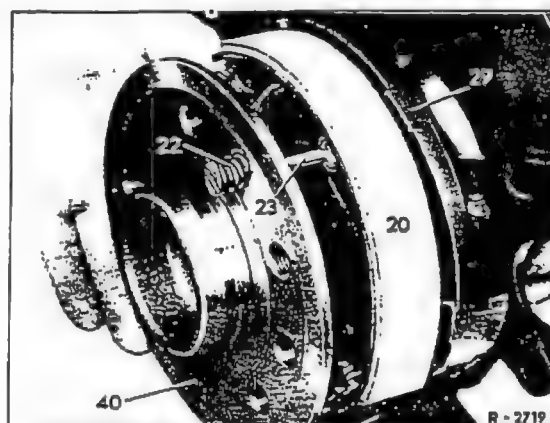

Fig. 42-28/11
16. Pull the brake shoes (20) apart at their lower end, slide them in over the rear axle shaft (40) and install them in the expansion lock (Fig. 42-28/8).